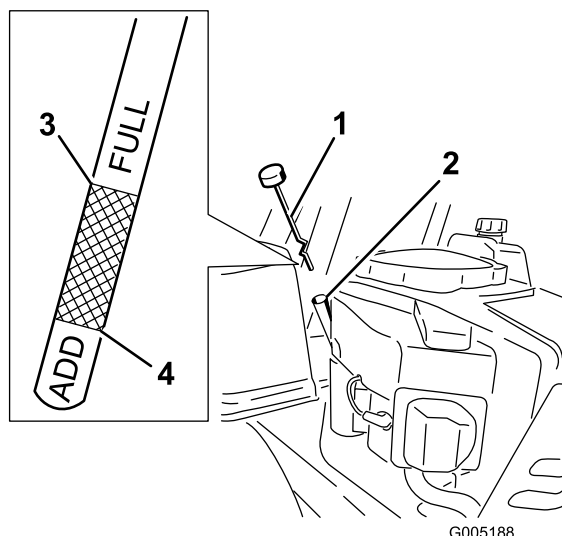

Figure 29
4. Unscrew and remove the dipstick; wipe oil off (Figure 29). Reinsert the dipstick into the tube and rest the cap on the tube. Do not screw the cap onto the tube.
5. Pull the dipstick out and check the oil level. (Figure 29). The oil level should be up to, but not over, the “FULL” or “F” mark on the dipstick
7. Remove the oil fill cap/dipstick (Figure 29).
13. Slowly pour approximately 80% of the specified oil into the filler tube (Figure 29).
14. Install the oil fill cap/dipstick (Figure 29).
15. Check the oil level (Figure 29); refer to Checking the Oil Level.
17. Install the oil fill cap/dipstick and screw tight (Figure 29).